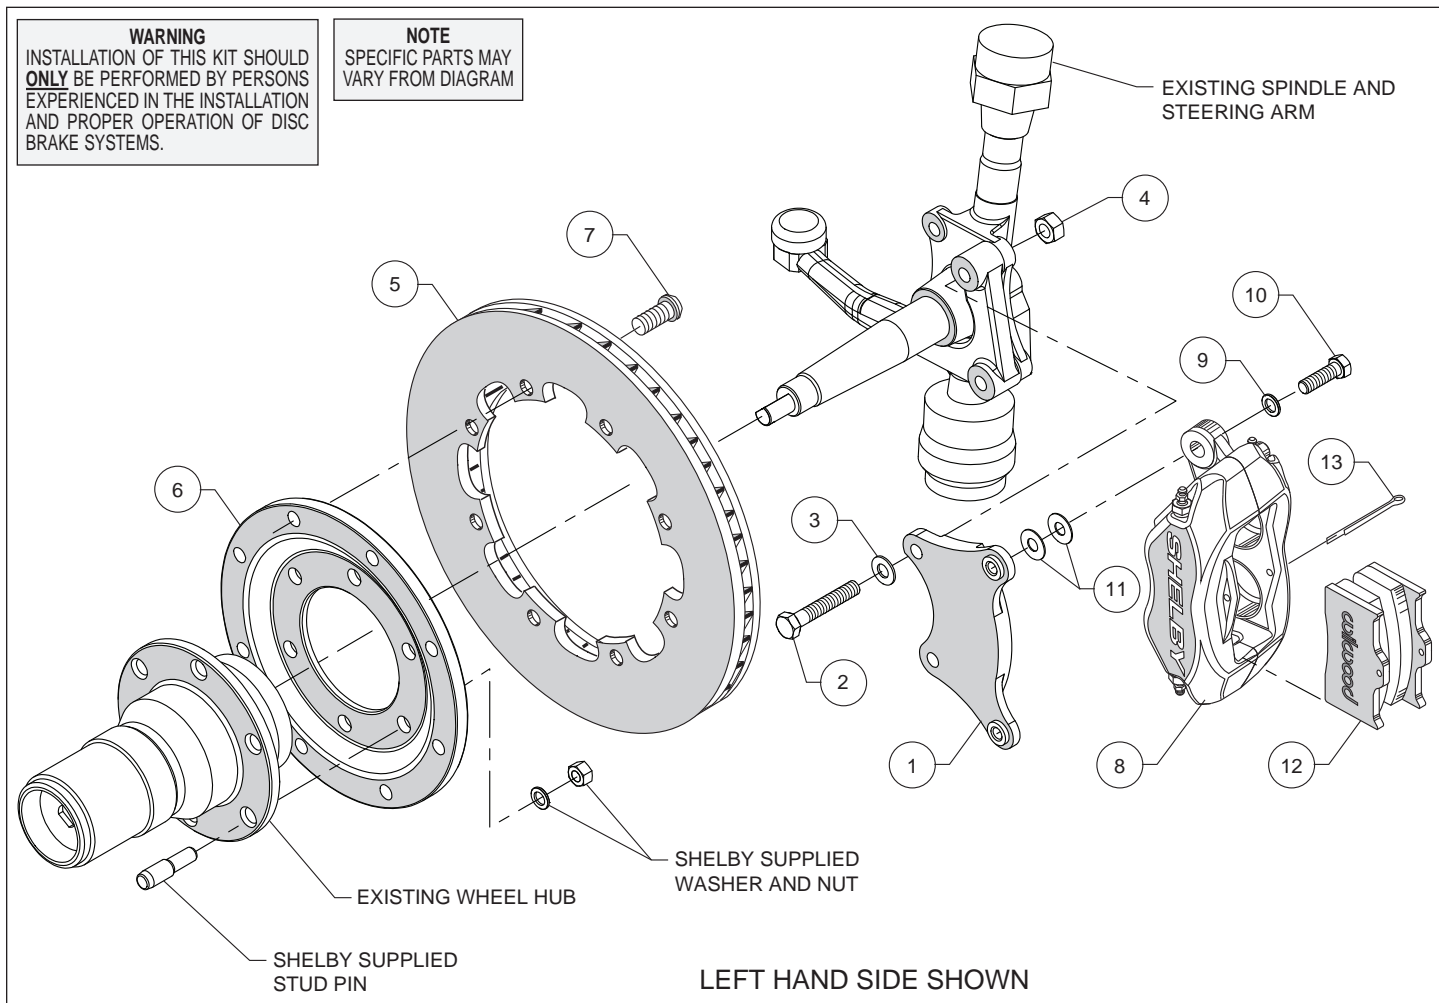
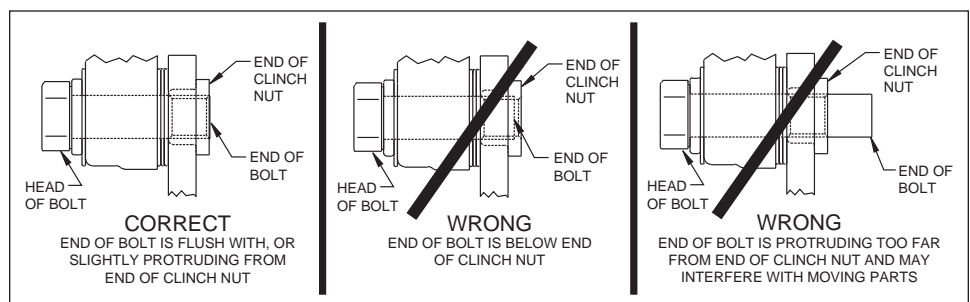

Figure 1. Typical Installation Configuration
Figure 4. Clinch Nut Engagement Diagram
Assembly Instructions (numbers in parenthesis refer to the parts list and Figure 1 on the preceding pages): **CAUTION:** All mounting bolts must fully engage clinch nuts. Be sure to check that all bolts are either flush or protruding through flanged side of clinch nut after shimming, Figure 4.
- Orient the caliper mount bracket (1) as shown in Figure 1 and install using bolts (2), washers (3) and nuts (4). Ensure that the flanged heads of the clinch nuts in the bracket are facing outboard, Figure 1. Temporarily tighten the mounting bolts.
- Orient the rotor (5) and the rotor adapter (6) as shown in Figure 1 and Photo 1. Attach the rotor to the adapter using bolts (7). Using an alternating sequence, apply red *Loctite*® 271 to the threads, and torque to 25 ft-lb.
- Mount the adapter/rotor assembly (5/6) to the hub (customer supplied) using stud pin, washer and nut (all customer supplied), as shown in Figure 1. Using an alternating sequence, apply red *Loctite*® 271 to the threads, and torque nuts to manufacturer's specifications.
- **NOTE:** Please reference the caution statement at the beginning of the assembly instructions. Mount the caliper (8) onto the caliper mounting bracket (1) using bolts (10) and washers (9), as shown in Figure 1. Initially place two .035" thick shims (11) on each bolt between the caliper and the bracket, Photo 2. Temporarily tighten the mounting bolts and view the rotor (5) through the top opening of the caliper. The rotor should be centered in the caliper, Photo 3. If not, adjust by adding or subtracting shims between the bracket and the caliper. Always use the same amount of shims on each of the two mounting bolts. **NOTE:** The end of each bolt must be flush with or slightly protruding from the head of the clinch nut, as shown in Figure 4. If necessary place spare shims between washer (9) and caliper mounting ear to achieve the proper clinch nut engagement. Once the caliper alignment and clinch nut engagement are correct, remove the bolts one at a time, apply red *Loctite*® 271 to bolt threads, and torque to 40 ft-lb.